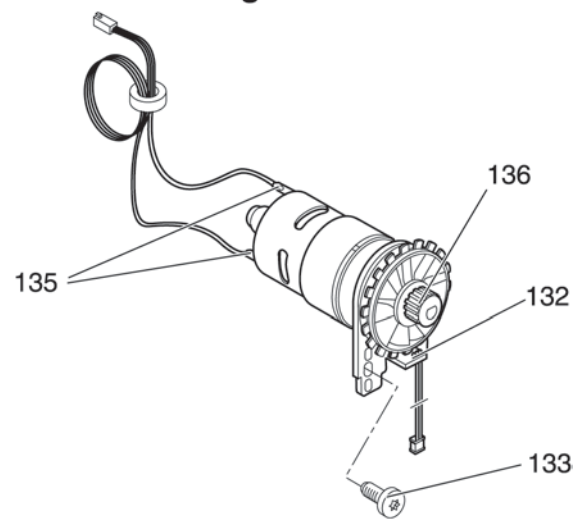

Fig. 38a
- Remove screw 132 of the forked photocell barrier (fig. 38a).
- Disconnect both cable plugs 135 from the motor (fig. 38a).
- Set the motor against the housing and connect both cable plugs 135 (fig. 38a).
- Fit the forked photocell barrier and insert fastening screw 132 (fig. 38a).